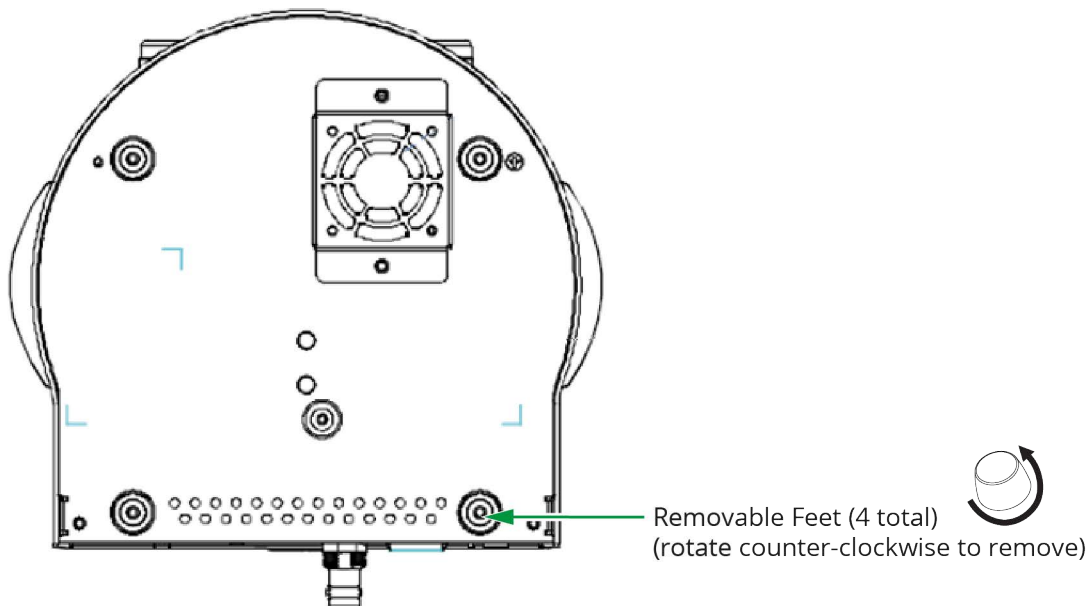

Figure 14 - Bottom View of Camera, showing Removable Feet (4pcs)
1. Remove the feet (4 pcs) from the bottom of the camera by rotating them counter-clockwise (Figure 14).